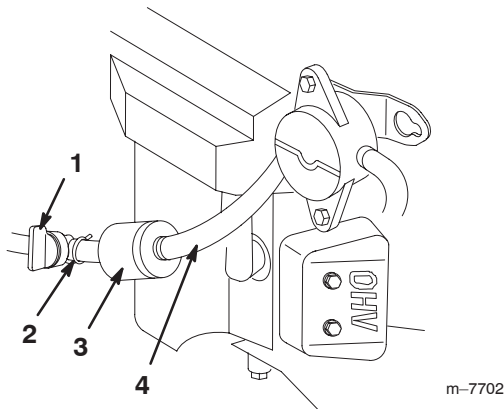

Figure 38
5. Close the fuel shutoff valve (Fig. 38).
6. Squeeze the ends of the hose clamps together and slide them away from the filter (Fig. 38).
8. Install a new filter and move the hose clamps close to the filter (Fig. 38).
3. Close the fuel shutoff valve (Fig. 38).
4. Loosen the hose clamp at the fuel filter and slide it up the fuel line away from the fuel filter (Fig. 38).
5. Disconnect the fuel line from the fuel filter (Fig. 38).
Note: Allow gasoline to drain into a fuel container can or drain pan (Fig. 38).
7. Install the fuel line onto the fuel filter. Slide the hose clamp close to the fuel filter to secure the fuel line (Fig. 38).